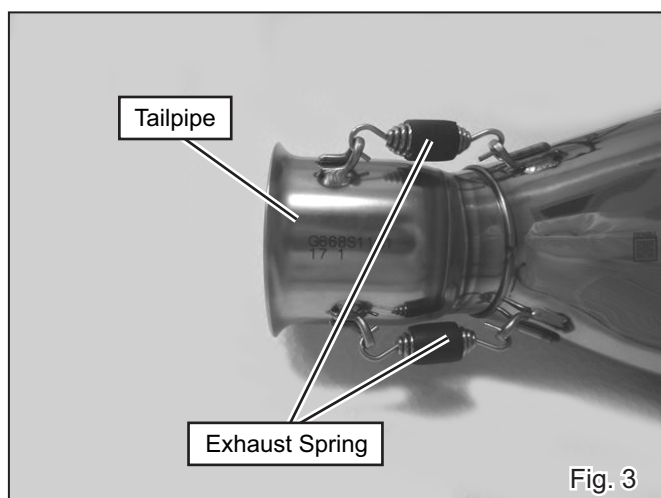

Fig. 3
- 4) Install Tailpipe to Silencer Assy and fix them with 2 of Exhaust Spring (See Fig. 3 & 4).